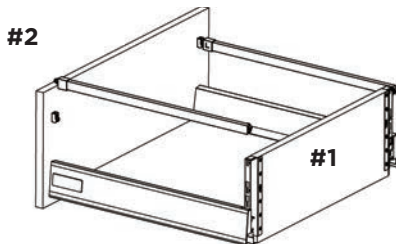

FIG. 20 Keep the drawer open. Fit, push down and click the rear of the top side bars into position.
5. To attach the drawer front again, refer page 12, FIG 19 and FIG 20.